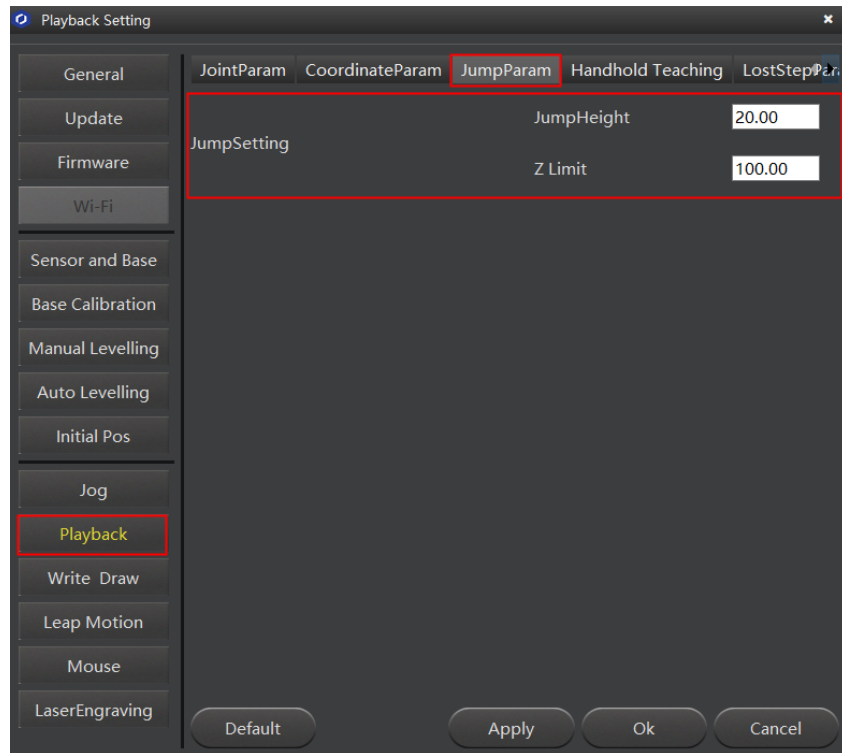

Figure 5.23 Jump parameters
2. Set the lifting height (**JumpHeight**) and the maximum lifting height (**Z Limit**) by selecting **Setting > Playback > JumpParam**, as shown in Figure 5.23.